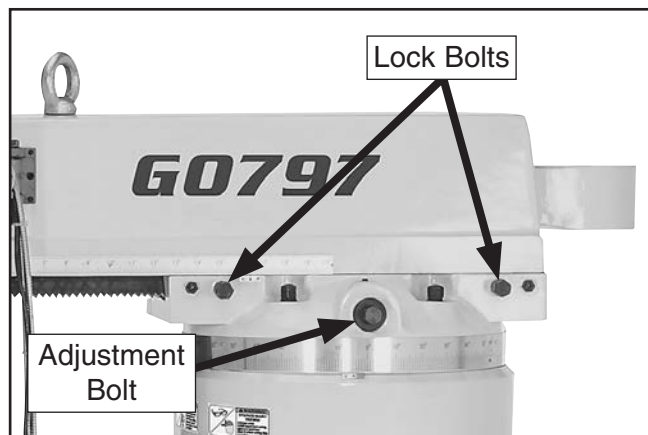

Figure 36. Ram forward/backward movement controls.
2. Loosen two lock bolts shown in **Figure 36**.